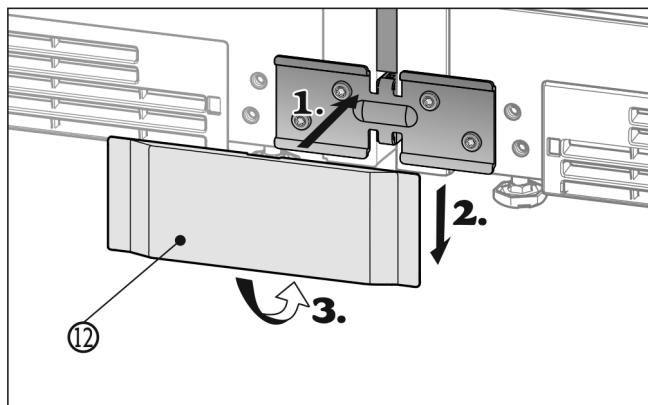

Fig. 31
- ▶ Place the bottom cover *Fig. 31 (12)* onto the bracket from the front *Fig. 31 (1)*, slide it down *Fig. 31 (2)* and snap it in at the bottom *Fig. 31 (3)*.